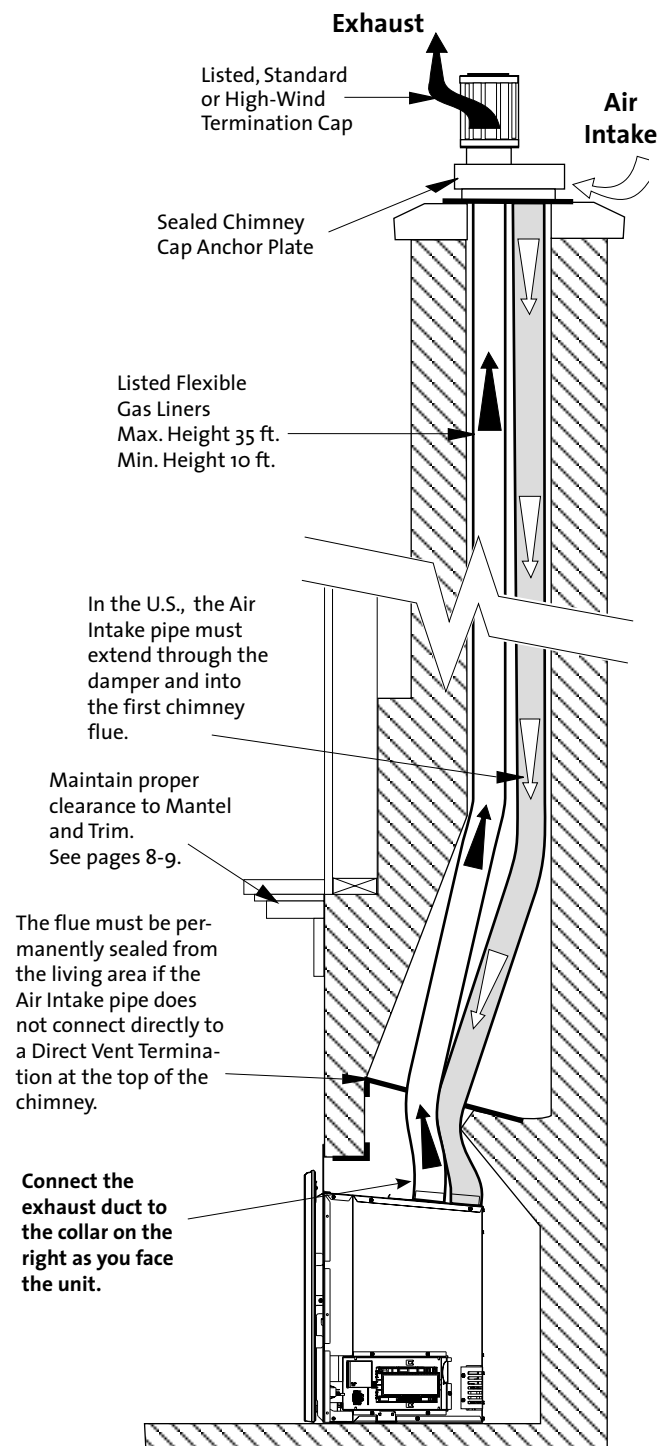

Figure 7. Masonry Fireplace Venting Configuration.
- The minimum height of termination cap from the top of the unit shall be no less than 10 ft.(3.05 m), and the maximum height shall be no more than 35 ft. (10.67 m). See figures 7 and 8.
This appliance must be vented through the chimney by a pair of 3 inch flexible aluminum liners listed for use with gas appliances. One duct is attached to the exhaust port on the top of the unit and will carry the exhaust gases to the outside of the house. This exhaust liner must run the full length of the chimney and be directly connected to the chimney termination cap. See figure 7 and 8.
The other 3 inch liner will be attached to the air intake port and will provide fresh air for combustion to the unit. This liner must extend through the damper area of the fireplace and at least into the first tile liner of the chimney. (U.S. ONLY). This liner can also extend the full length of the chimney and connect to the termination cap. See NOTICES below. See also figures 7 and 8.
If the intake flex does not extend the full length of the chimney and connect to the unit and the termination cap - **A METAL BLOCK OFF PLATE MUST BE CONSTRUCTED AND INSTALLED ABOVE THE UNIT BELOW THE END OF THE INTAKE DUCT** (normally at the damper area). See figure 7.